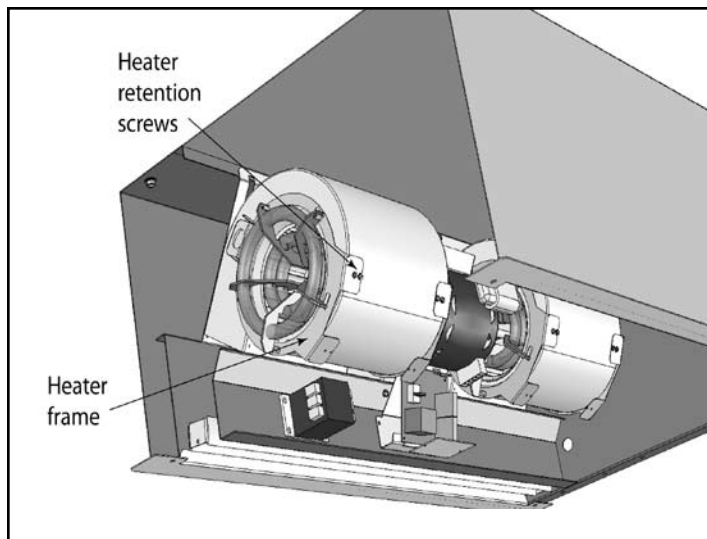

Figure 10
5. Remove the (2) self drilling, heater retention screws holding the electric heater frame to the fan housing. **See Figure 10.**